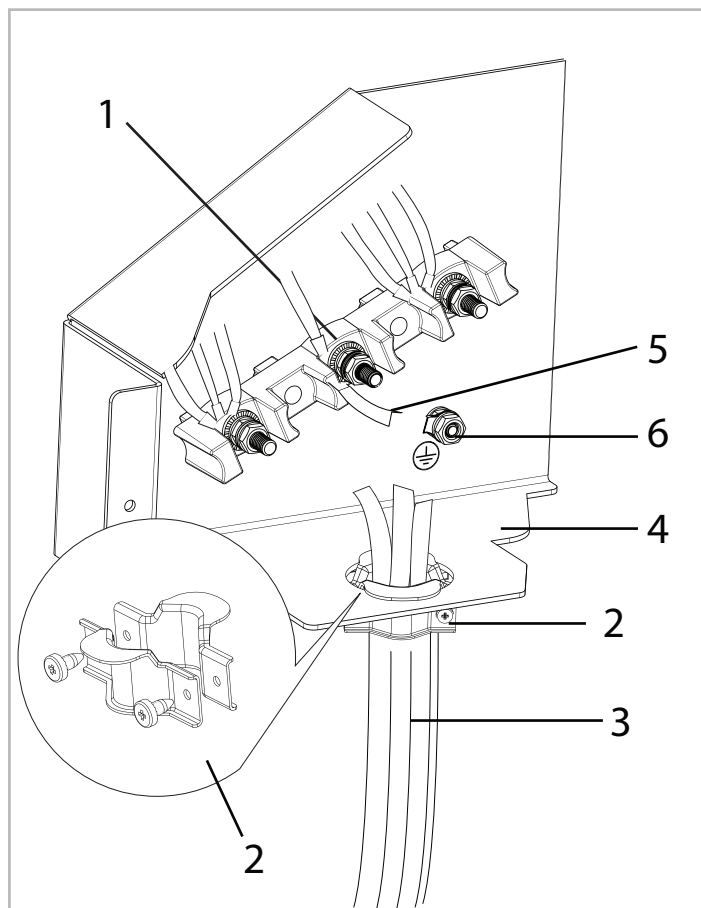

Figure 5
3.Using the 1-3/8 in. diameter opening insert the strain relief and power cord through the opening and secure the strain relief as directed in the power cord instructions as shown in figure 5.